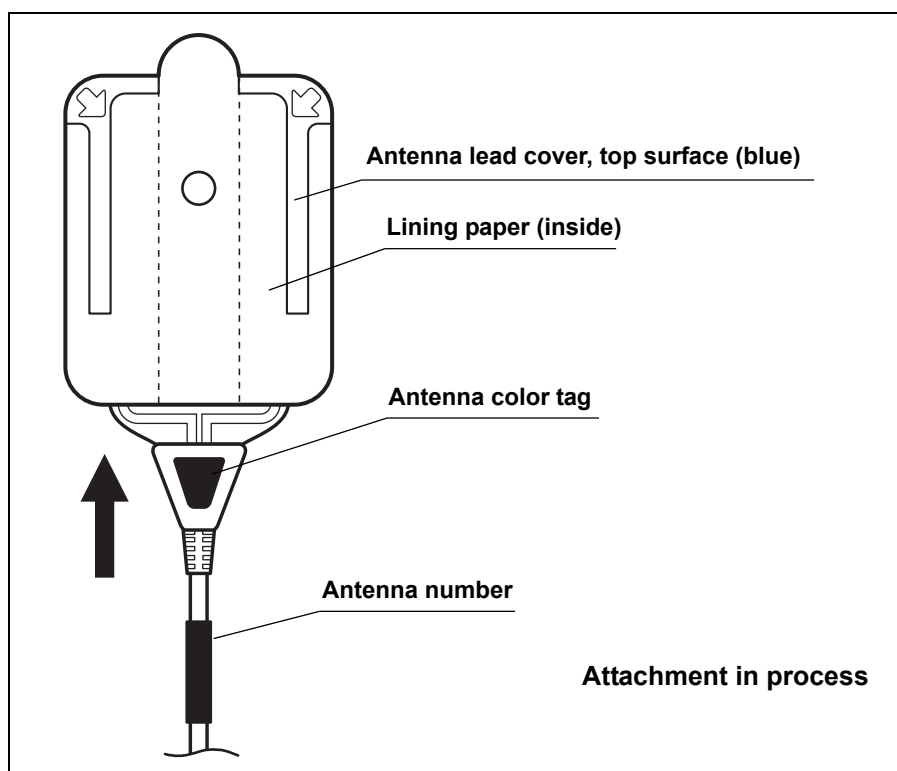

Figure 5.28
1. Insert the antenna into the antenna lead cover so that its color tag is on the same side as the blue surface of the antenna lead cover, then align their holes (see Figure 5.28).